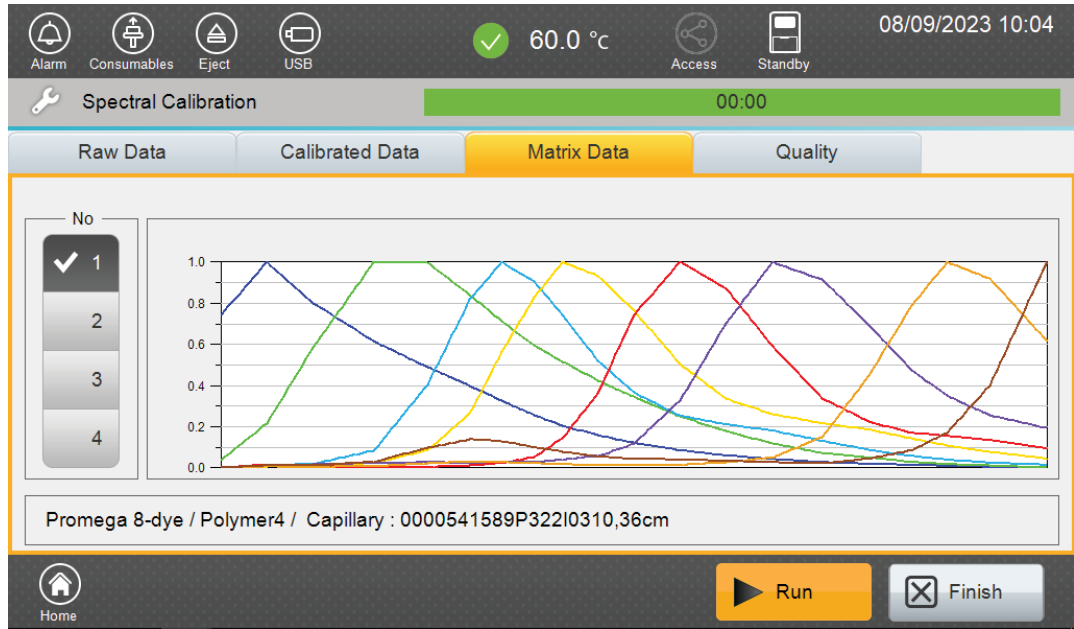

Figure 12. Spectral Calibration 'Matrix Data' tab.
- The 'Matrix Data' tab can be used to view emission spectra for each capillary (Figure 12).